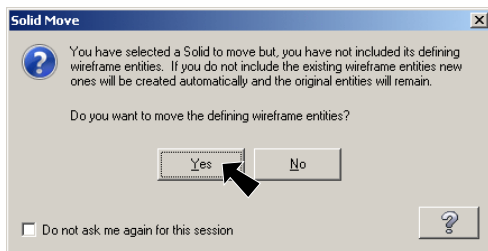

Fig. 42
- Step 5. Click **Yes** to move defining wireframe entities, **Fig. 42**.